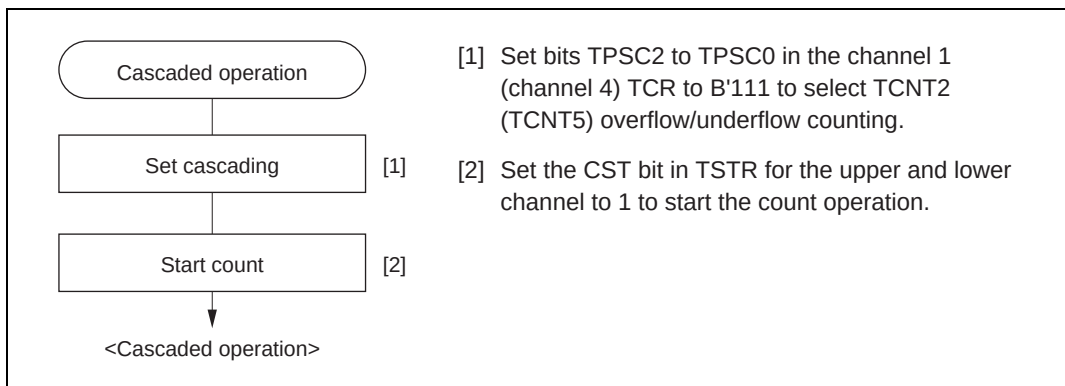

**Figure 9.21 Cascaded Operation Setting Procedure**
**Example of Cascaded Operation Setting Procedure:** Figure 9.21 shows an example of the setting procedure for cascaded operation.